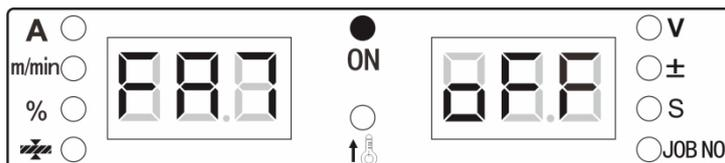

Fig. 4-7 FA7 display interface
1. Enter the internal menu and and find **FA7** by turning the knob. The digital meter is as displayed in Fig.4-7.